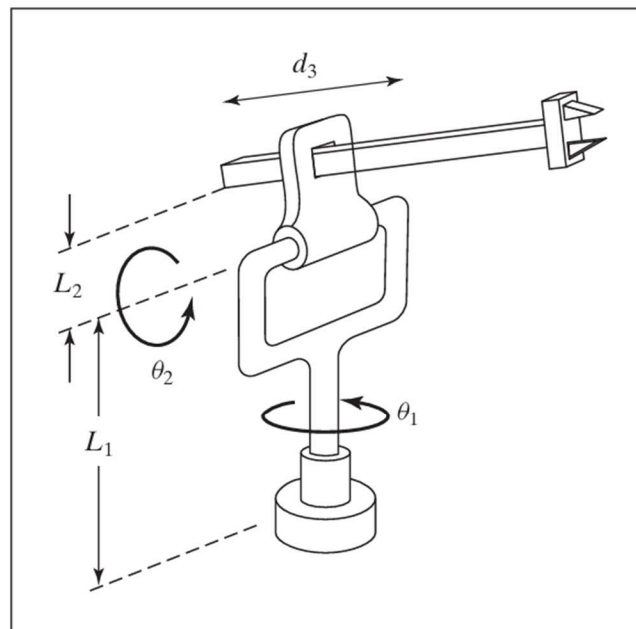

FIGURE 3.37: Three-link *RRP* manipulator (Exercise 3.17).
- 3.17** [15] Show the attachment of link frames on the three-link robot shown in Fig. 3.37.